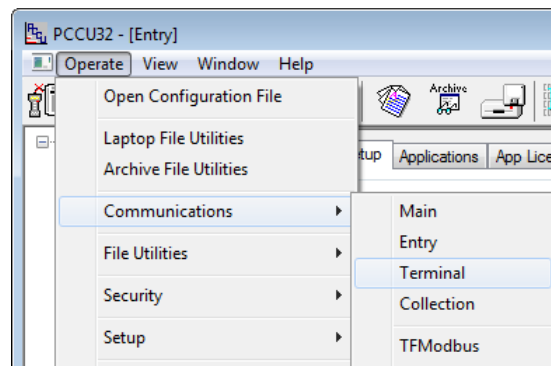

Figure 85: Terminal menu option
3. Click **Operate** in the menu bar and select the options **Communications** then **Terminal** (Figure 85). The Terminal screen displays (Figure 86).